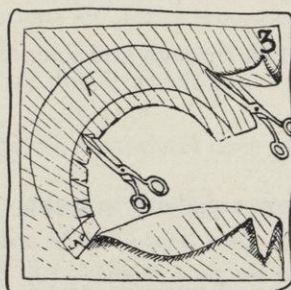

FIG. 3.
- Cut on the larger outline, the edgewire; on the dotted line drawn 1 inch inside of the headsize; and on the outer line allowed for the lap (see Figure 3).
- Slash from the smaller cut edge (dotted line) to headsize that you desire, with slashes $\frac{1}{2}$ inch apart (see Figure 3).